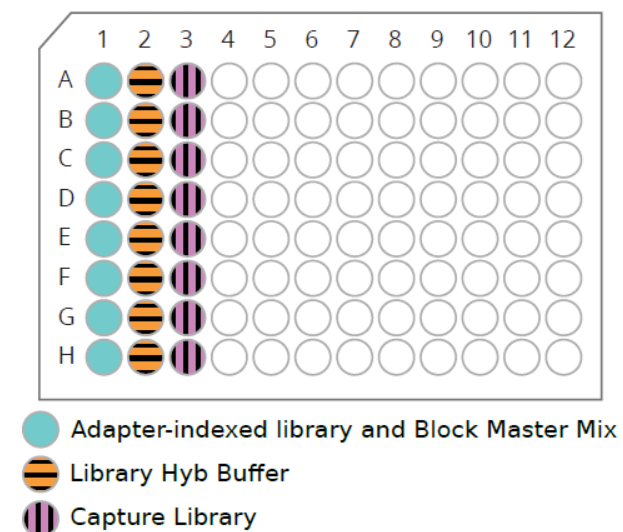

Figure 6. Capture Library in “Column 3”.
- d. After the incubation of Library Hyb Buffer at 65°C for 3 minutes, put the previously prepared **Capture Library Mix PCR tube* (Step 3c)** into the thermal cycler (e.g. column 3, see Figure 6) and incubate at **65°C for 2 minutes**.